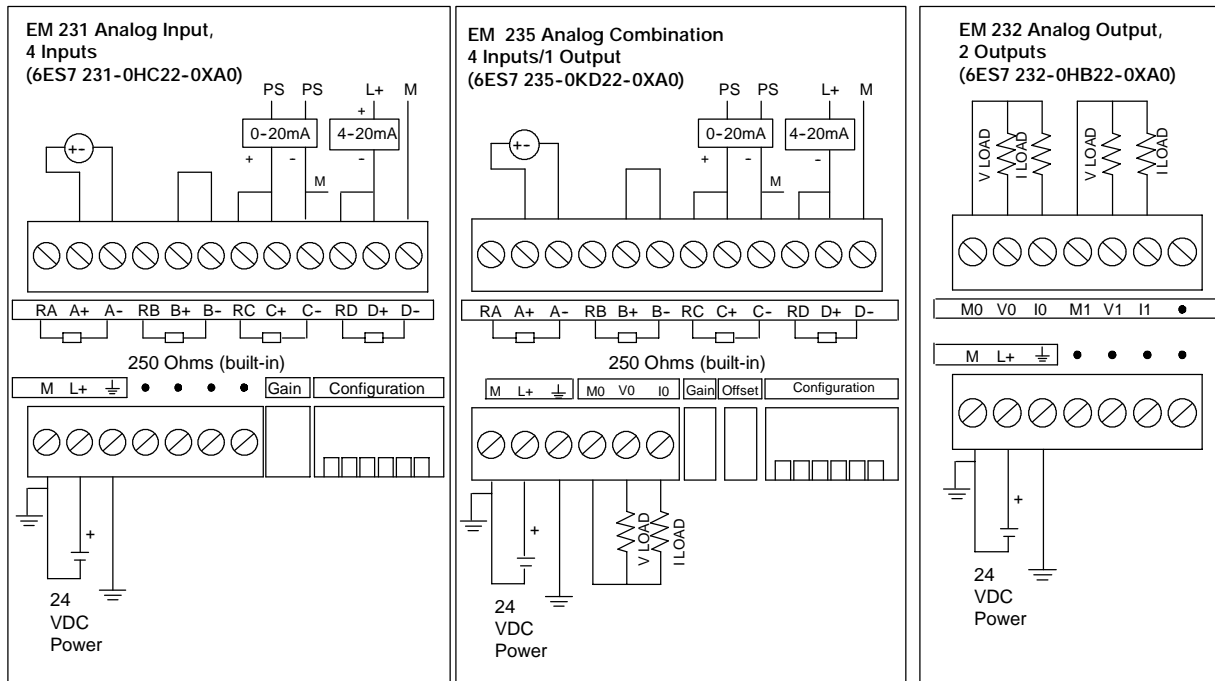

Figure A-11 Wiring Diagrams for Analog Expansion Modules
- Short the inputs for any unused channels, as shown in Figure A-11.